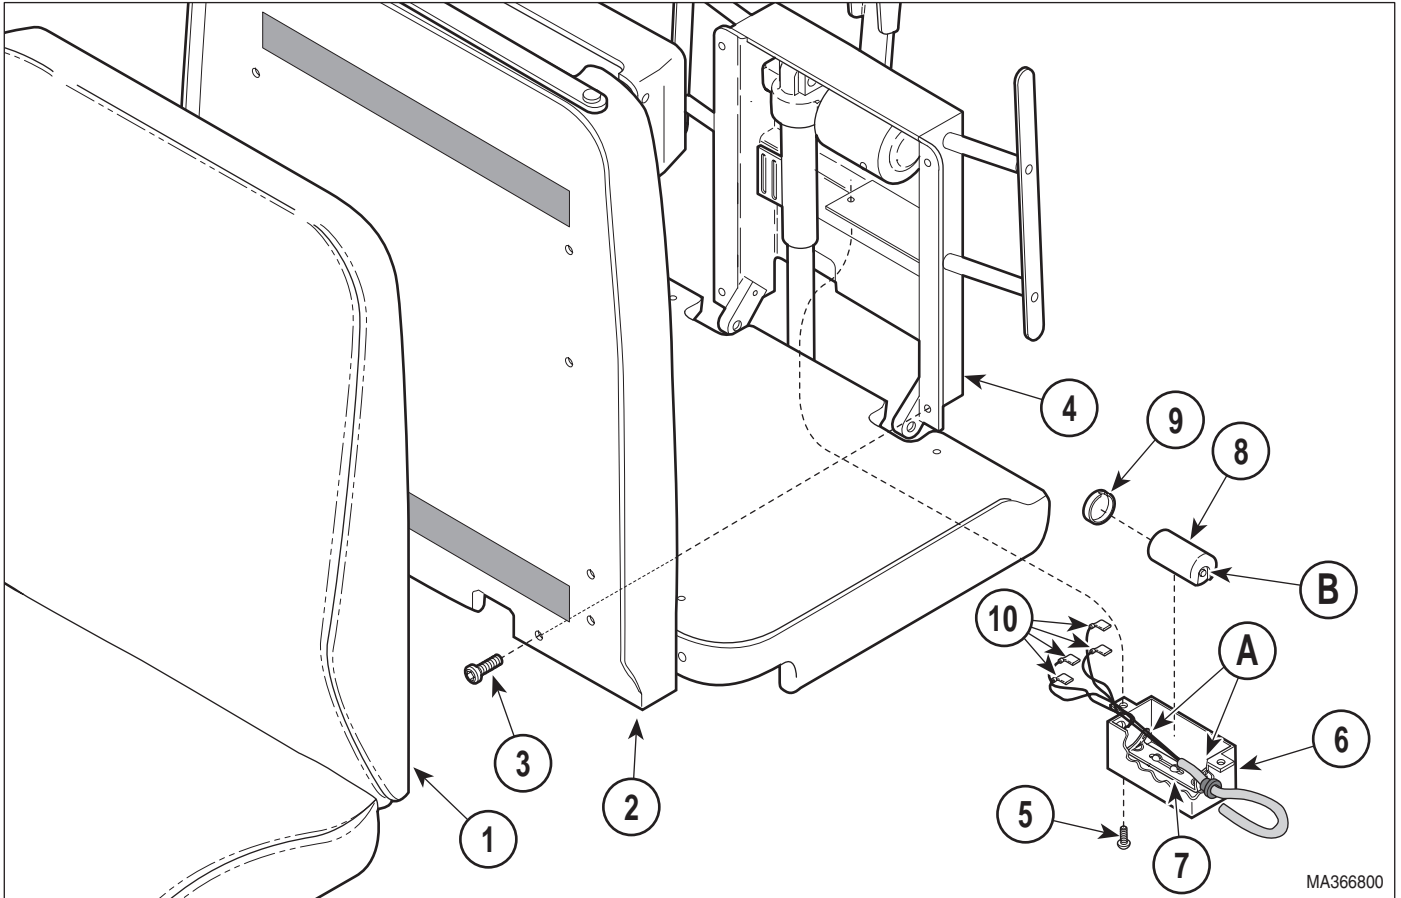

Figure 4-11. Back Capacitor Removal / Installation
- (1) Unplug table power cord from outlet receptacle.
- (2) Remove upholstered back (1, Figure 4-11) from back board (2).
- (3) Remove four screws (3), and back board (2) from back weldment (4).
- (4) Remove two screws (5) and back capacitor cover (6) from back weldment (4).
- (5) Using a screwdriver, pry tab (A) of capacitor mounting bracket (7) outward; then remove back capacitor (8) from capacitor mounting bracket.
- (6) Remove cap (9) from back capacitor (8).